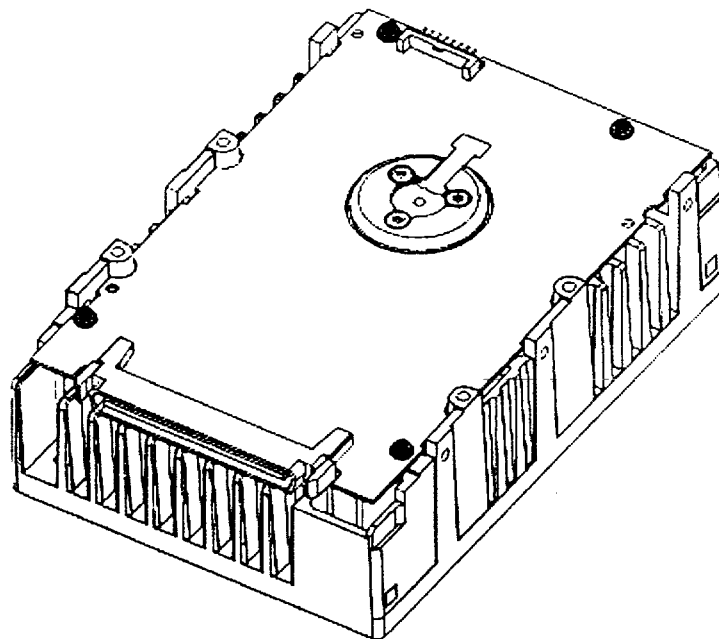

Figure 1.1 MAF series LC/MC outer view
An outer view of the IDD is given in Figures 1.1 to 1.6. The IDD is composed of the disk, head, spindle motor, hermetically sealed disk enclosure (DE) with actuator and air circulation filter, as well as read/write pre-amp with the print card unit (PCA) of the controller.